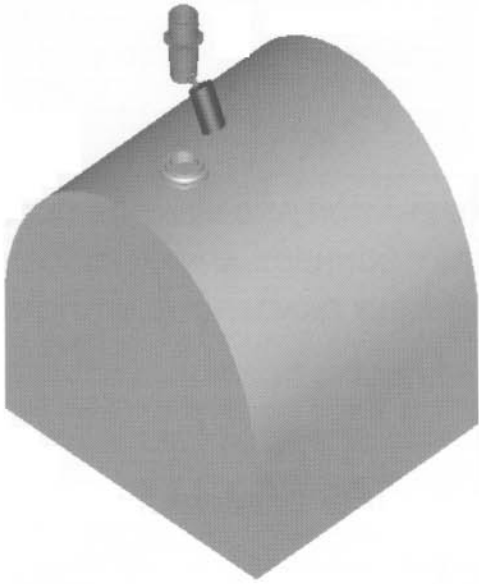

Figure 1.
3. Guide the float through the 2" threaded opening in the tank then the valve body, **be careful not to damage the threads** (SEE FIGURE 1, 2, and 3) **or cross thread.**